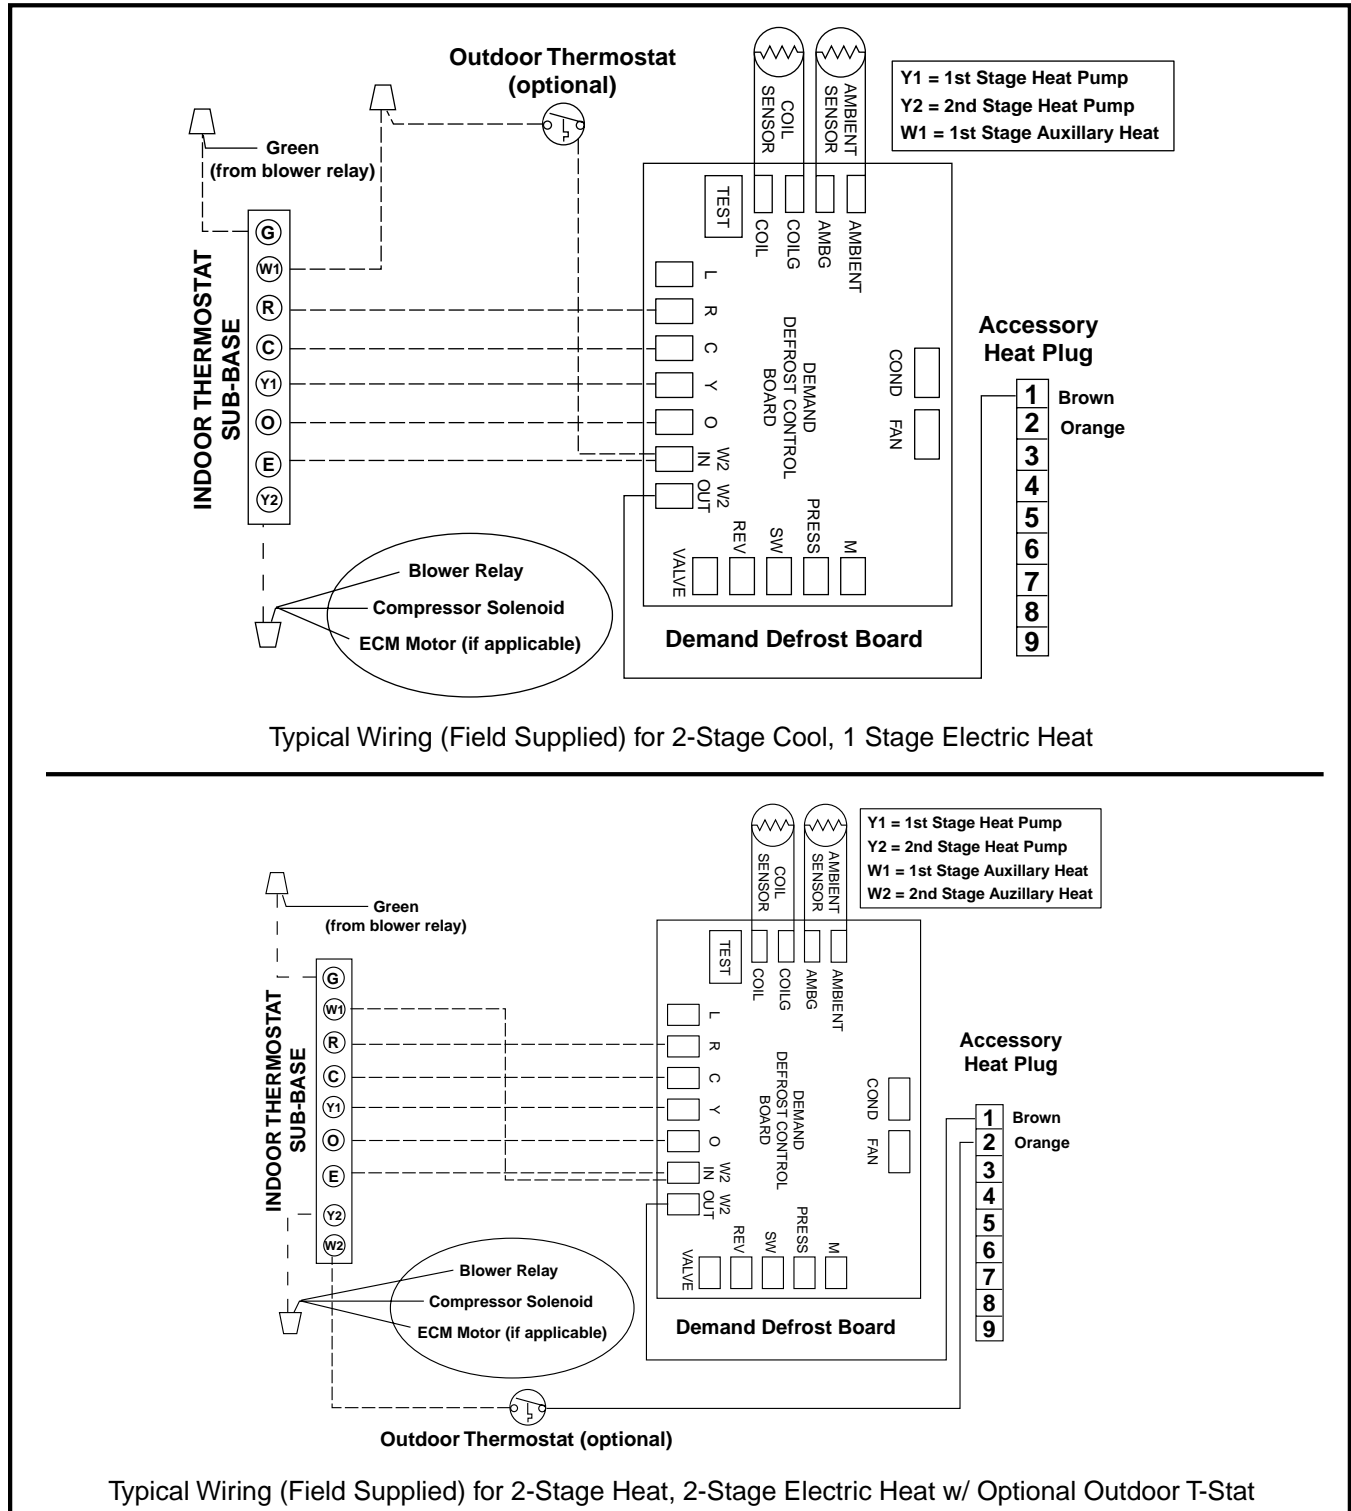

Figure 7. Typical Heat Pump Thermostat Connections
2. Connect the control wires to the defrost board and blower relay wire (Figure 7, page 10).